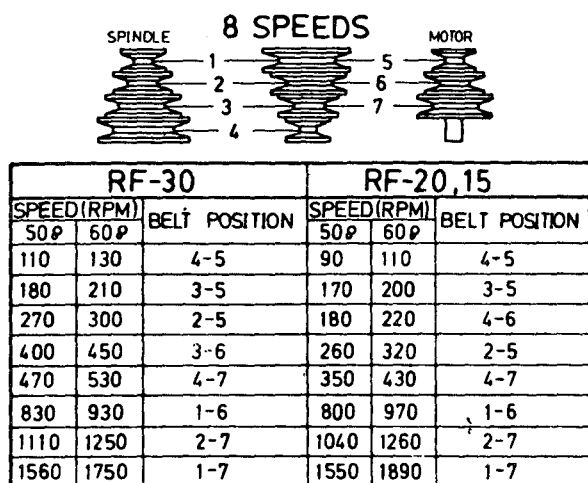

Fig. 5
- (1) Turn power off.
- (2) Remove belt cover by releasing side latches.
- (3) Loosen motor mount leaf screw (3-51).
- (4) Push motor in order to loosen belts (right side of motor mount is fixed, left side with motor screw (3-114) to tighten or loosen belts.)
- (5) Loosen two screws of base for speed change pulley (3-76) that also adjust the location of base for speed change pulley.
- (6) Select the suitable R.P.M. from speed charts of Fig. 5, 6. Then place the belts on the desired pulley steps.
- (7) Tighten two screws of base for speed change pulley and the bolt of motor mount lock.
- (8) Cover the belt cover before turn power on.